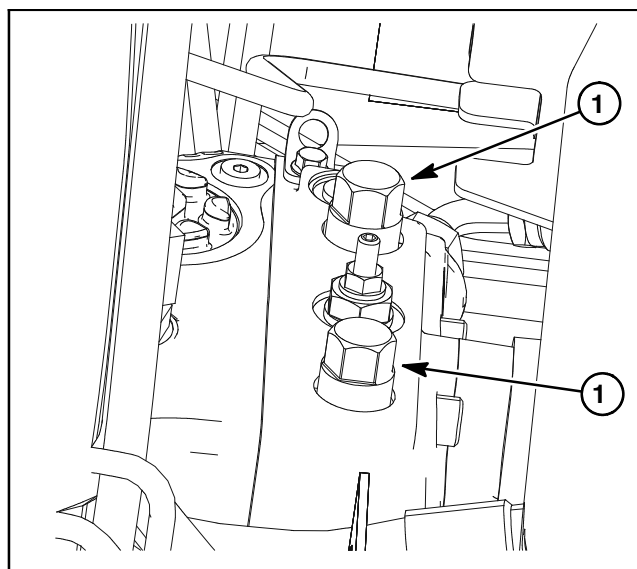

Figure 2
If it becomes necessary to tow (or push) the machine, tow (or push) in a **forward direction only**, at a speed **below 3 mph (4.8 kph)** and for a distance **less than 1/4 mile (0.4 km)**. The piston (traction) pump is equipped with two (2) bypass valves that need to be turned three (3) turns counterclockwise before towing or pushing the machine. The bypass valves are on the top of the piston pump (Fig. 2). Do not turn bypass valves when engine is running.
5. If a torque wrench is not available or if space at the swivel nut prevents use of a torque wrench, an alternate method of assembly is the Flats From Wrench Resistance (F.F.W.R.) method (Fig. 2).